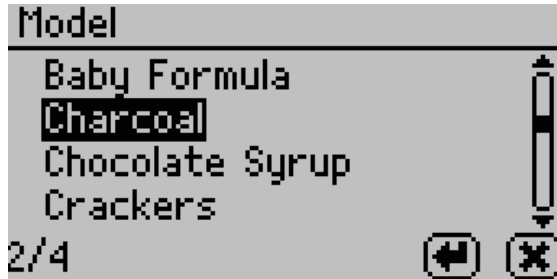

Figure 23 Moisture content model list
5. Select the desired model (Figure 23).